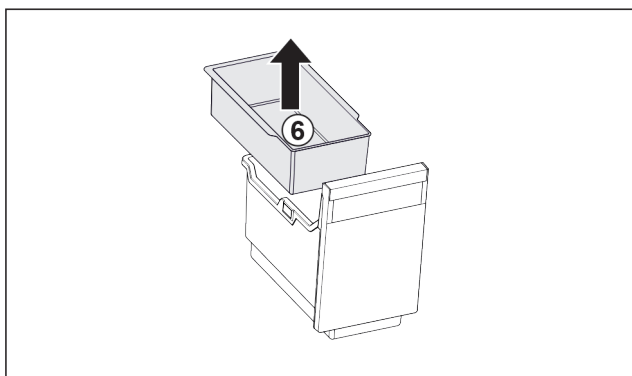

Fig. 19
- Remove the hang-on tray Fig. 19 (6).